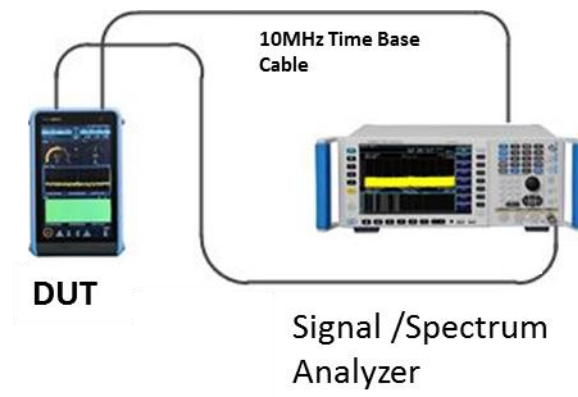

Fig. 8.14 Schematic diagram of the local oscillation re-radiation test
- 1) Connect the test equipment as in Fig. 8.14, the RF output of the device to be tested is connected to the input of the signal/spectrum analyzer, and the device to be tested shares a common time base with the signal/spectrum analyzer.